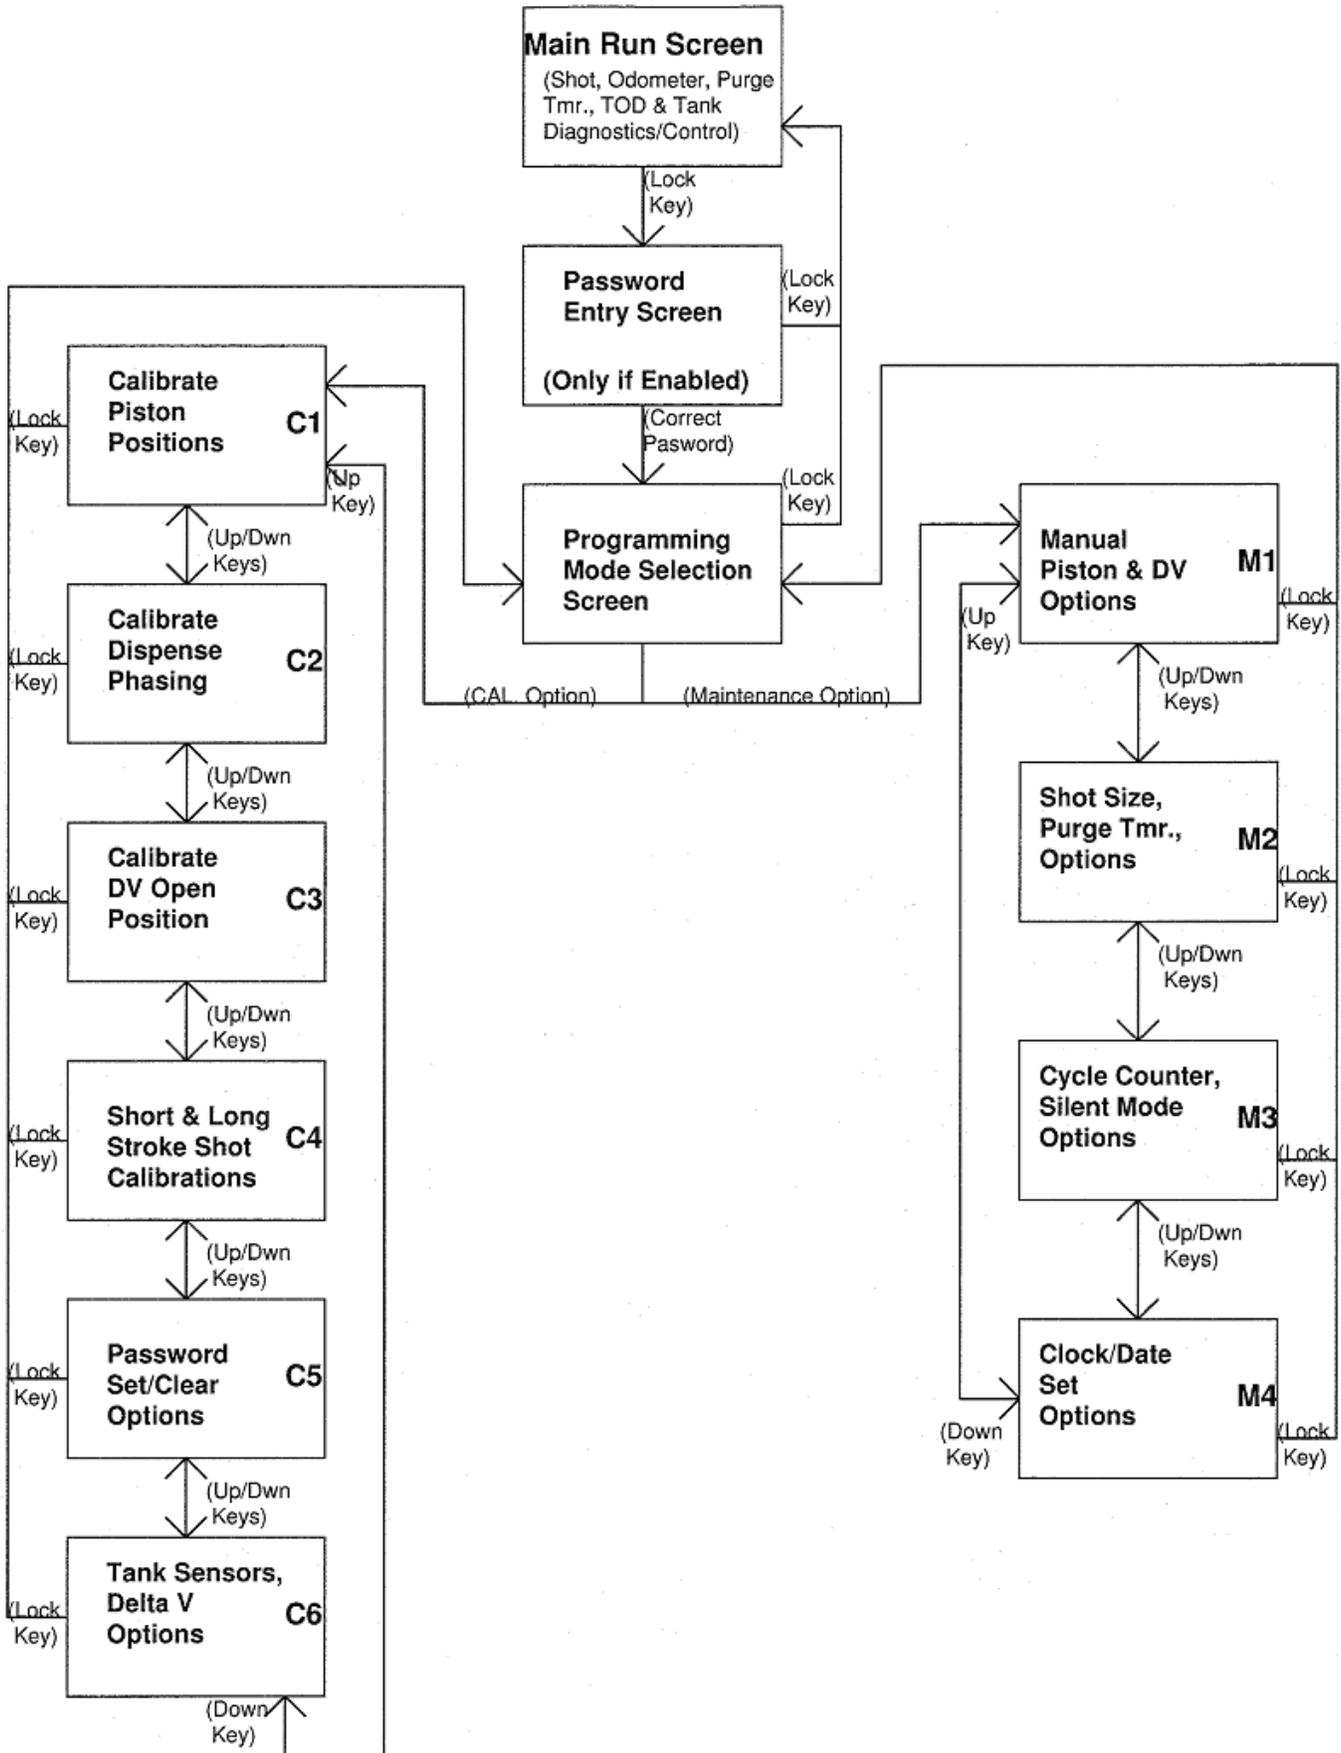

Figure 9: PR70 Screen Navigation Diagram
2. To enter the calibration screens, press 🔧. To enter the maintenance screens, press 🔧. Refer to Figure 9 for a screen navigation diagram.
4. If the correct password has been entered, the Programming Mode Selection Screen will be displayed. Refer to Figure 9 for a screen navigation diagram.